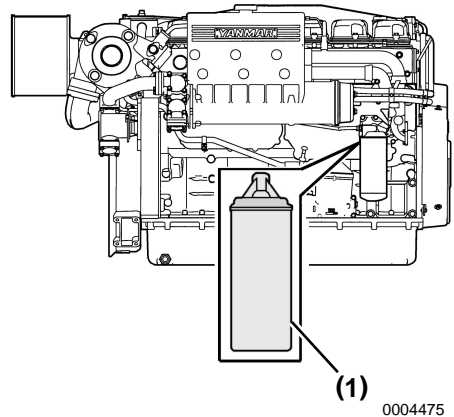

Figure 3
- Remove the filter (**Figure 3, (1)**) with a filter wrench.